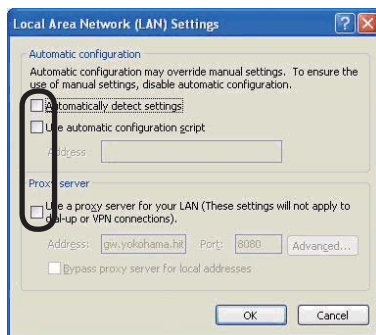

Fig. 2.2.3.c “Local Area Network (LAN) Settings” window
3) Uncheck all boxes in “Local Area Network (LAN) Settings” window. (Fig. 2.2.3.c)